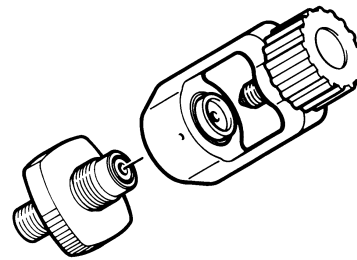

Fig. 12 International filling connector
- Air bottles with international filling connector can be connected with filling adaptor (part no. 79375) to the German filling connector (see Fig. 12).